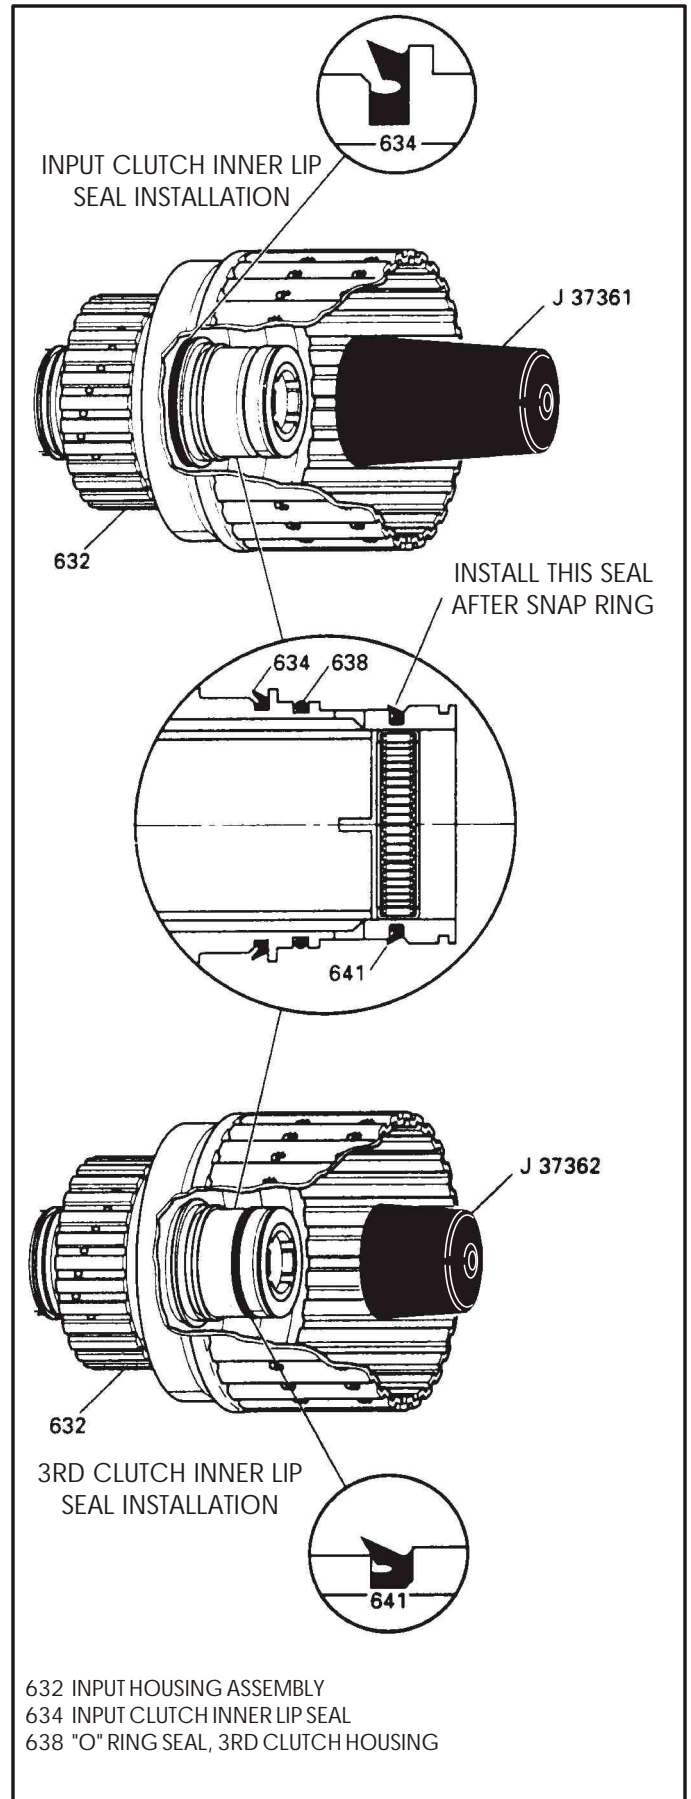

Figure 110
19. Install the input clutch inner lip seal into the housing in the direction shown in Figure 110, using J37361 installation tool (See Figure 110).
20. Install the "O" ring into the proper groove in the input housing, as shown in Figure 110.
27. **After** the 3rd clutch housing snap ring has been installed, install the 3rd clutch piston inner lip seal into the housing, as shown in Figure 110.